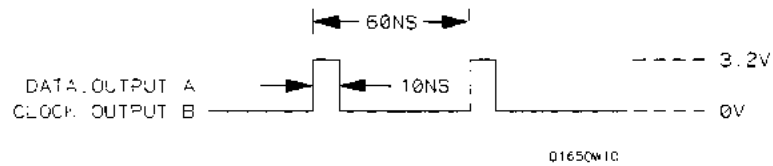

Figure 3-4. Waveform for Data Test 1
2. Adjust the pulse generator for the output in figure 3-4.